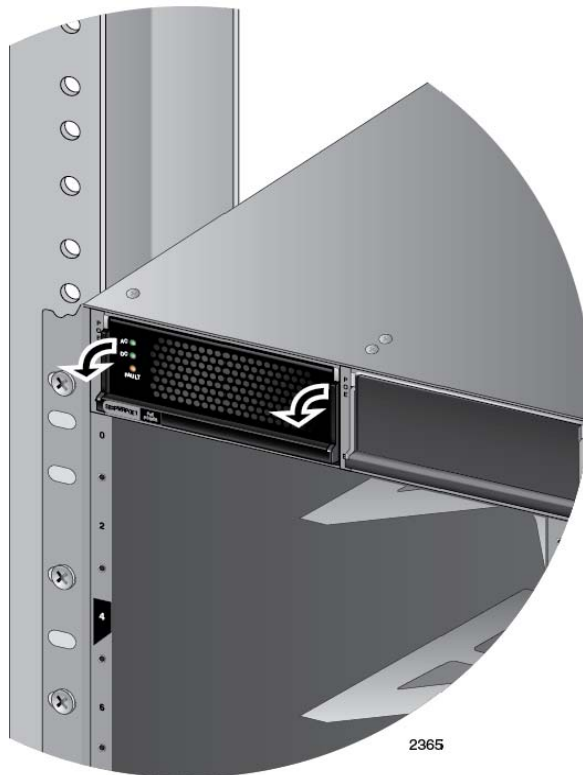

Figure 57. Locking the Handle on the AT-SBxPWRPOE1 Power Supply
6. Lower the locking handle of the power supply to secure the module in the slot, as shown in Figure 57.